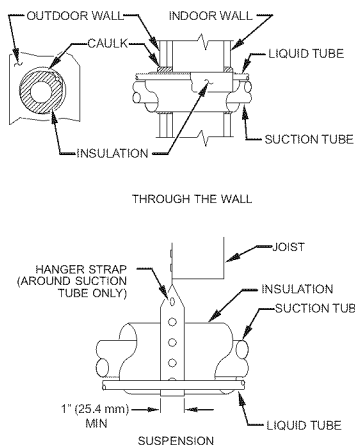

Fig. 1 - Connecting Tubing Installation
5. When passing refrigerant tubes through the wall, seal opening with RTV or other pliable silicon-based caulk (see Fig. 1).
7. Do not suspend refrigerant tubing from joists and studs with a rigid wire or strap which comes in direct contact with tubing (see Fig. 1).
9. When necessary, use hanger straps which are 1 in. wide and conform to shape of tubing insulation. (See Fig. 1.)